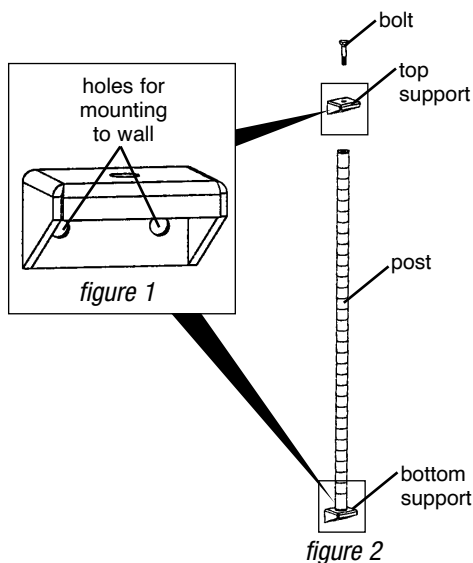

figure 2
- To determine top support location, bolt the post to the bottom support on the wall, then bolt the top support to the post (see *figure 2*). IMPORTANT: Use a level to ensure post is straight.